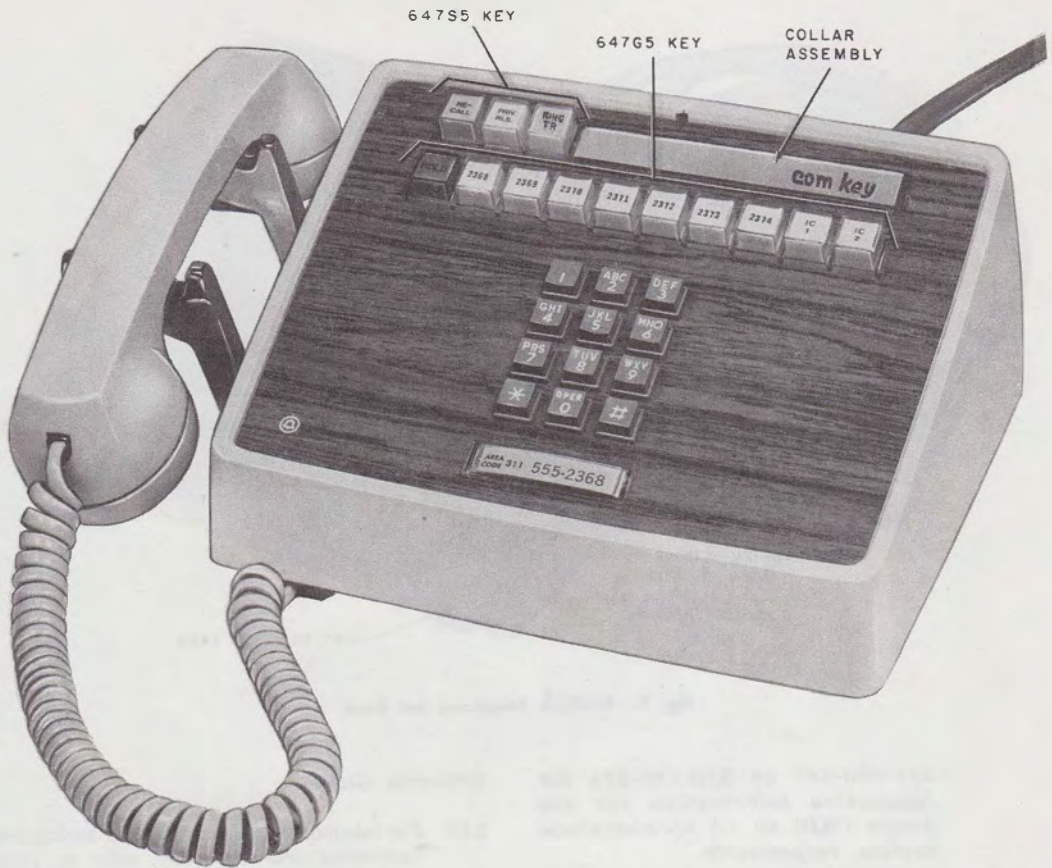

Fig. 2—2832CM Telephone Set
2.01 The 832BM (Fig. 1), 2832BM, 832CM, and 2832CM (Fig. 2) are modular type telephone sets and will replace the 832B, 2832B, 832C, and 2832C telephone sets, respectively, which are hereby rated MD. The 832DM, 2832DM, 832EM, and 2832EM are also modular sets and are electrically and functionally equivalent to the 832BM, 2832BM, 832CM, and 2832CM sets, respectively, except that they have been adapted for wall mounting. The modular sets will all be equipped with a G15A-50 handset and H4DU-50 handset cord which will plug into a 616T jack mounted on the left front of the telephone set base (Fig. 3). Current production models of these sets also are equipped with an improved line switch and an improved Automatic Button Restoral (ABR) feature. Some early production BM and CM sets were not so equipped.